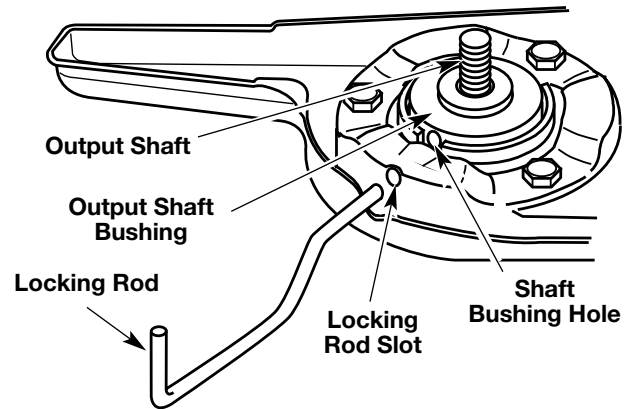
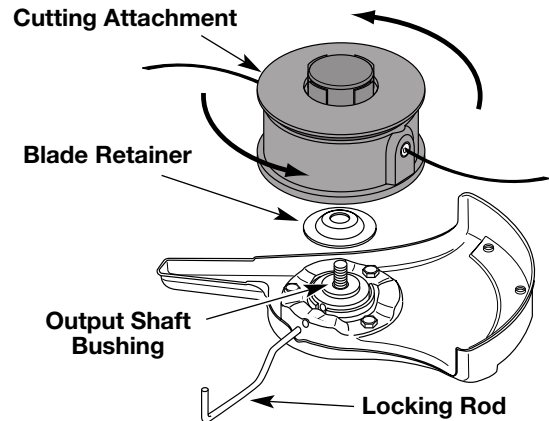

Fig. 8
Fig. 16
1. Align the shaft bushing hole with the locking rod slot and insert the locking rod into the shaft bushing hole (Fig. 8).
- Align the shaft bushing hole with the locking rod slot and insert the locking rod into the bushing hole (Fig. 8).
- Align the shaft bushing hole with the locking rod slot and insert the locking rod into the shaft bushing hole (Fig. 8, Pg. 10). Place the blade retainer on the output shaft with the flat surface against the output shaft bushing as shown in Fig. 16. Screw the cutting attachment counterclockwise onto the output shaft. Tighten securely.